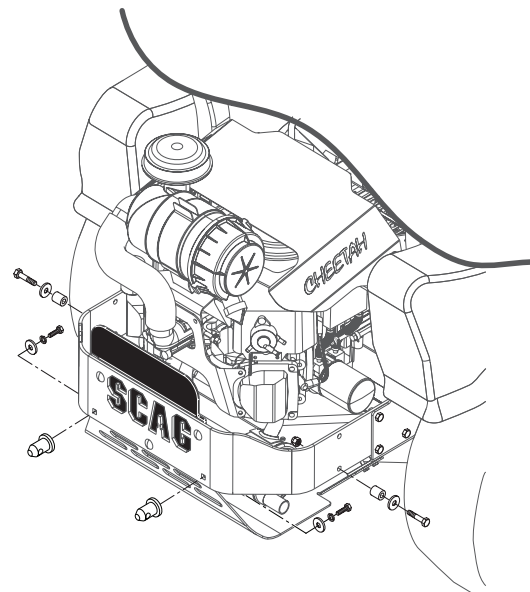

Figure 2-7. Hopper Mounting Hardware Install
15. Remove the rear skid plate mounting hardware from the outside two holes. See Figure 2-7.